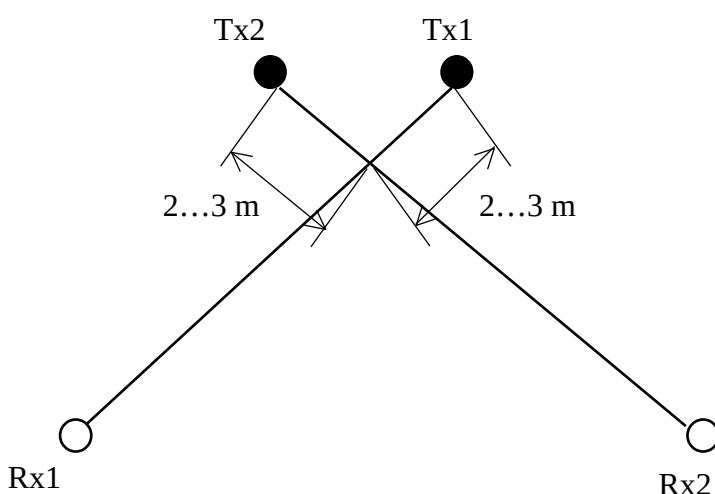

Fig. 2.1
2.2.1. Mark the perimeter area for the places where the supports will be mounted. To generate a continuous protected boundary, the installation of Tx and Rx isn't permitted on adjacent perimeter sectors. The right installation on adjacent perimeter sectors is Tx and Tx, Rx and Rx. To generate the continuous protected boundary, it is necessary to provide the overlapping of the sectors detection zones (see fig. 2.1 and 2.2). The overlapping is necessary to eliminate the possibility of the sector overcoming under or above Tx (Rx) unit near the support.